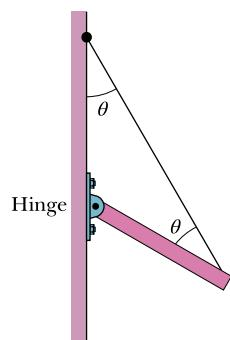

Figure 12.26 Problem 23.
**23 M GO** In Fig. 12.26, one end of a uniform beam of weight 222 N is hinged to a wall; the other end is supported by a wire that makes angles  $\theta = 30.0^\circ$  with both wall and beam. Find (a) the tension in the wire and the (b) horizontal and (c) vertical components of the force of the hinge on the beam.